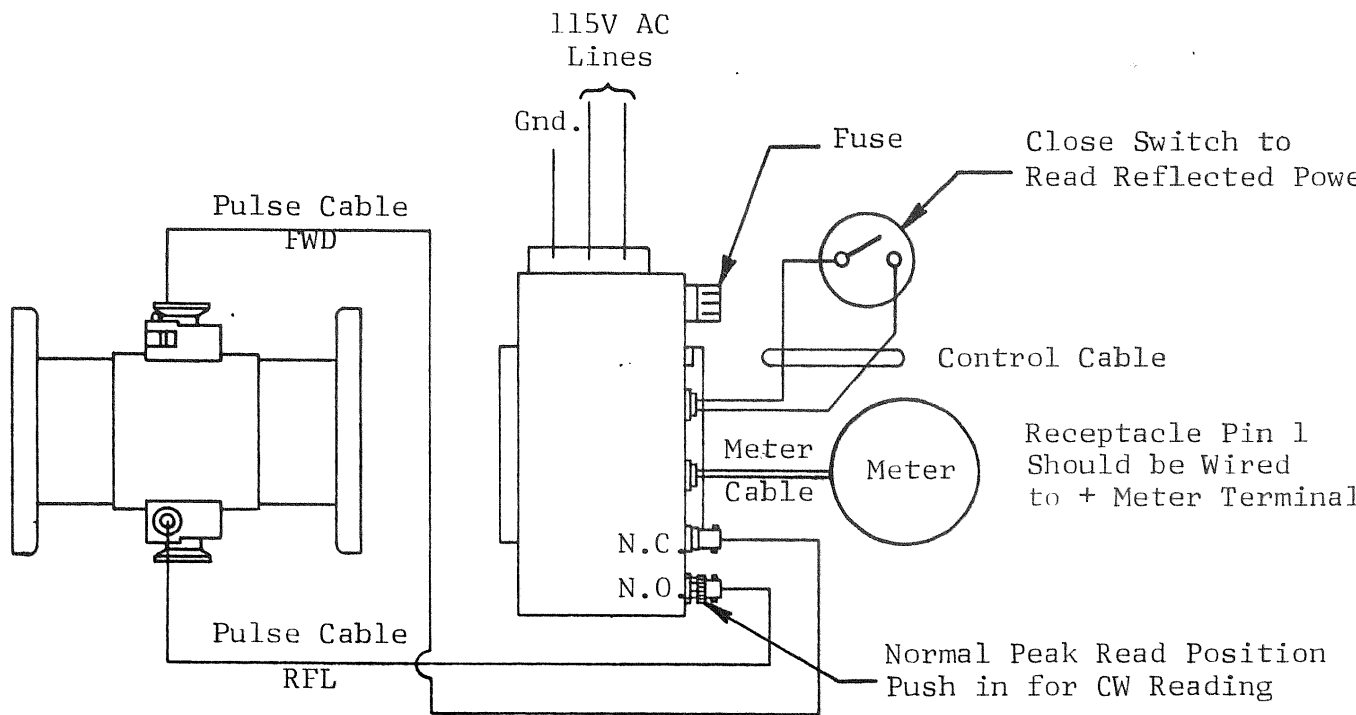

Figure 3
2. Amplifier Installation and Wattmeter Conversion (See Fig. 3)